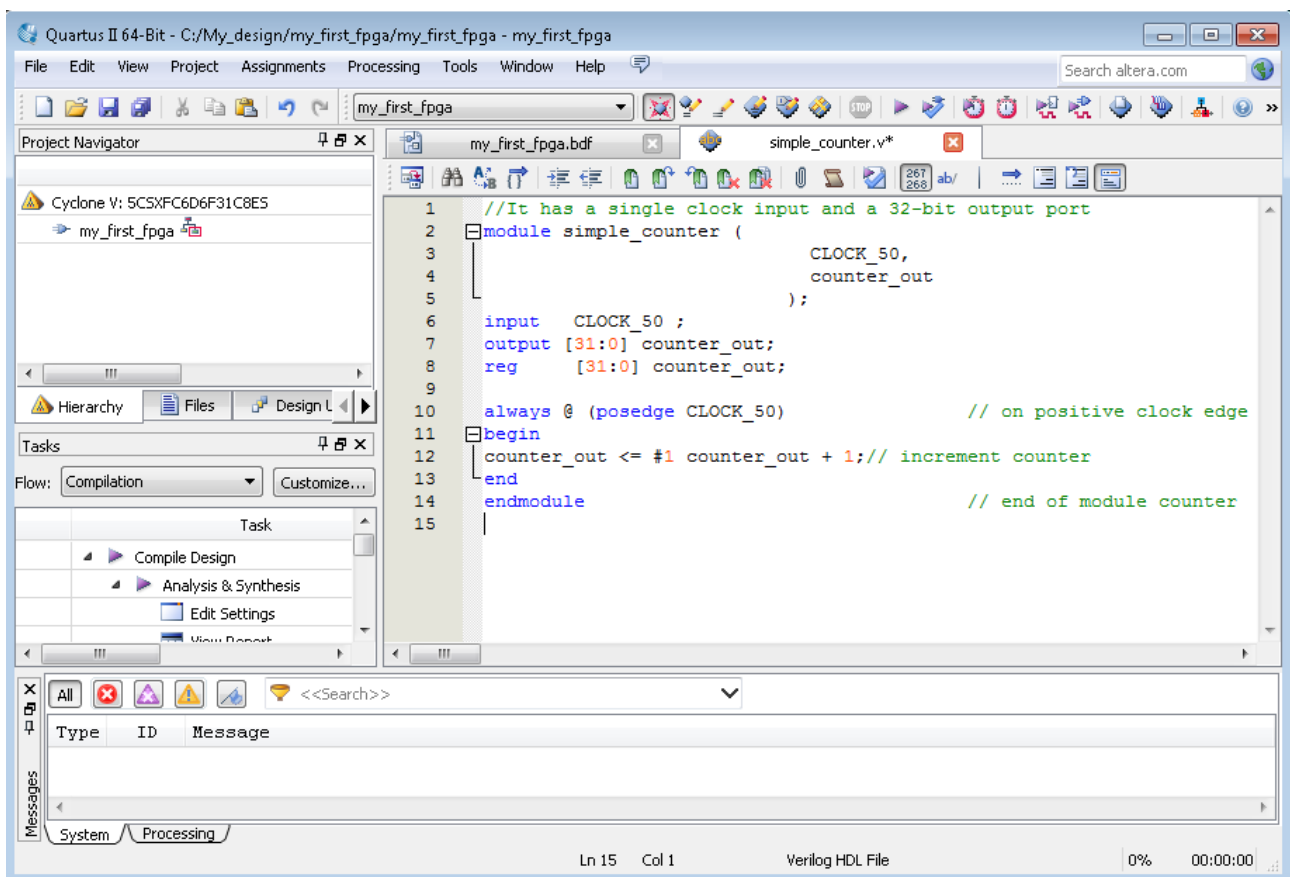

Figure 3-4 The Verilog File of simple_counter.v
8. Type the following Verilog HDL code into the blank `simple_counter.v` file (see Figure 3-4 The Verilog File of `simple_counter.v`).